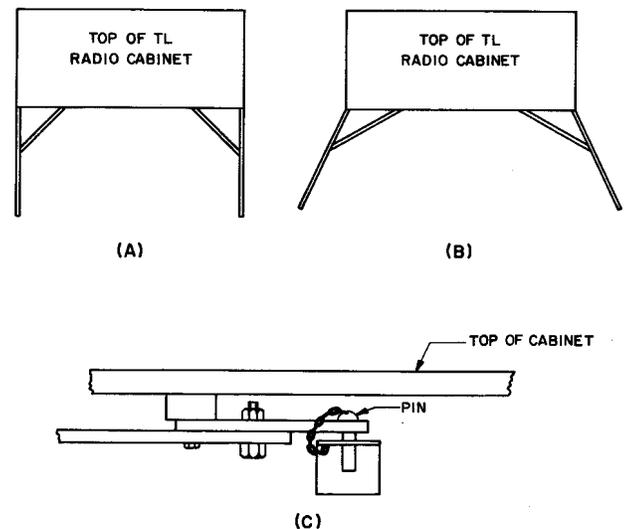

Fig. 1 — Doorstop Operation
4.01 There is a doorstop provided at the top of each door which may be arranged to permit the doors to open as shown in either Fig. 1(A) or (B). The stop is normally set to permit the doors to open as shown in Fig. 1(A). To open the doors wider as in Fig. 1(B), remove the pin on the doorstop shown in Fig. 1(C). After the doors are opened, they should be locked in place by pressing the locking lever down (see Photograph A). Photographs B and C show the doorstop with the pin in place and with the pin removed.